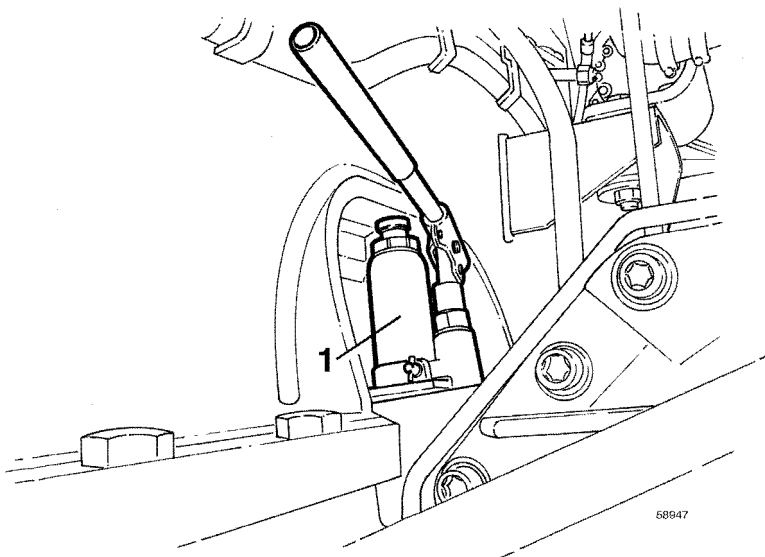

Figure 4
- Block the rear axle oscillation by positioning a jack on either side of the machine between frame and rear axle, see Figure 4.